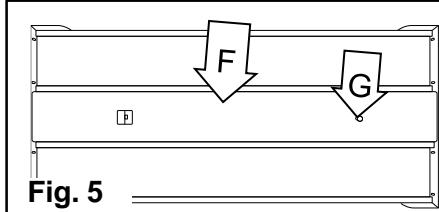

Fig. 5
2. Remove the **front plate** (F) along the center of the fixture by removing the **screw** (G) and sliding the cover off. [Fig. 5]